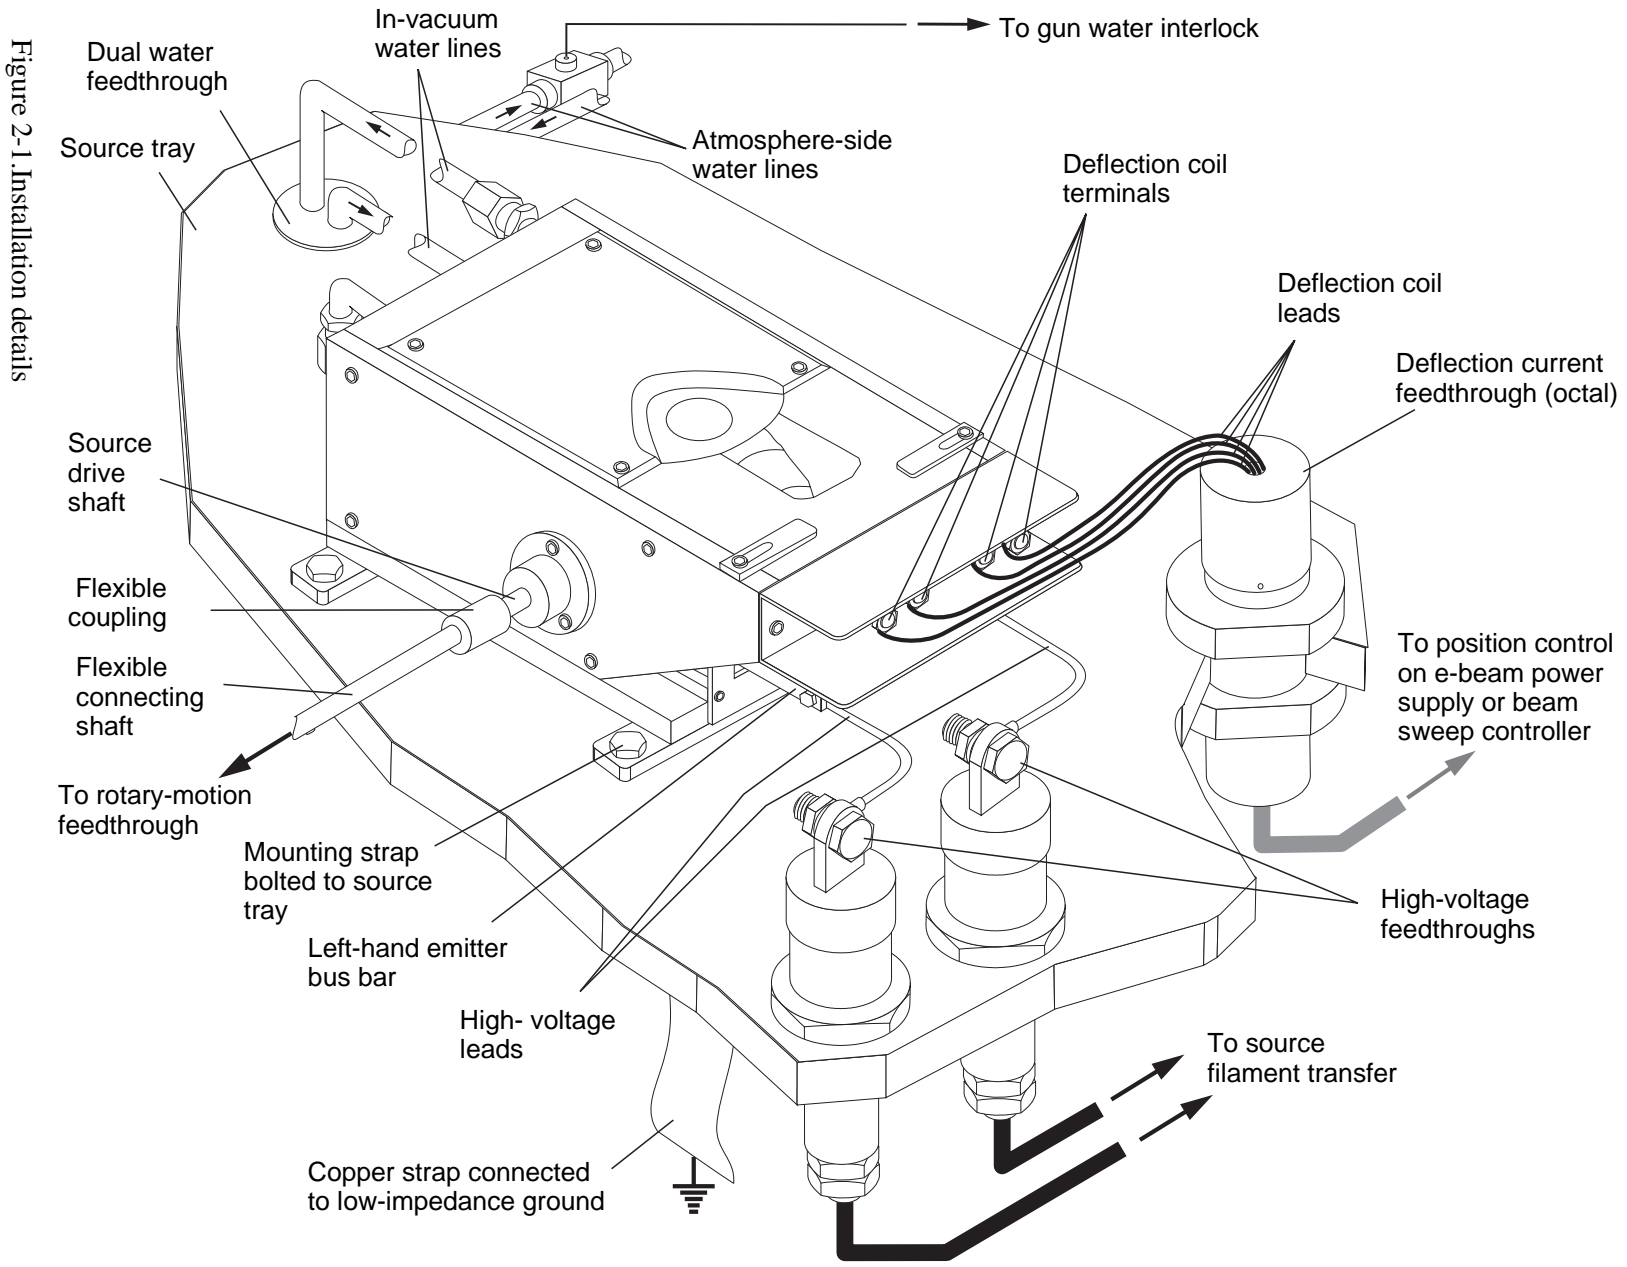
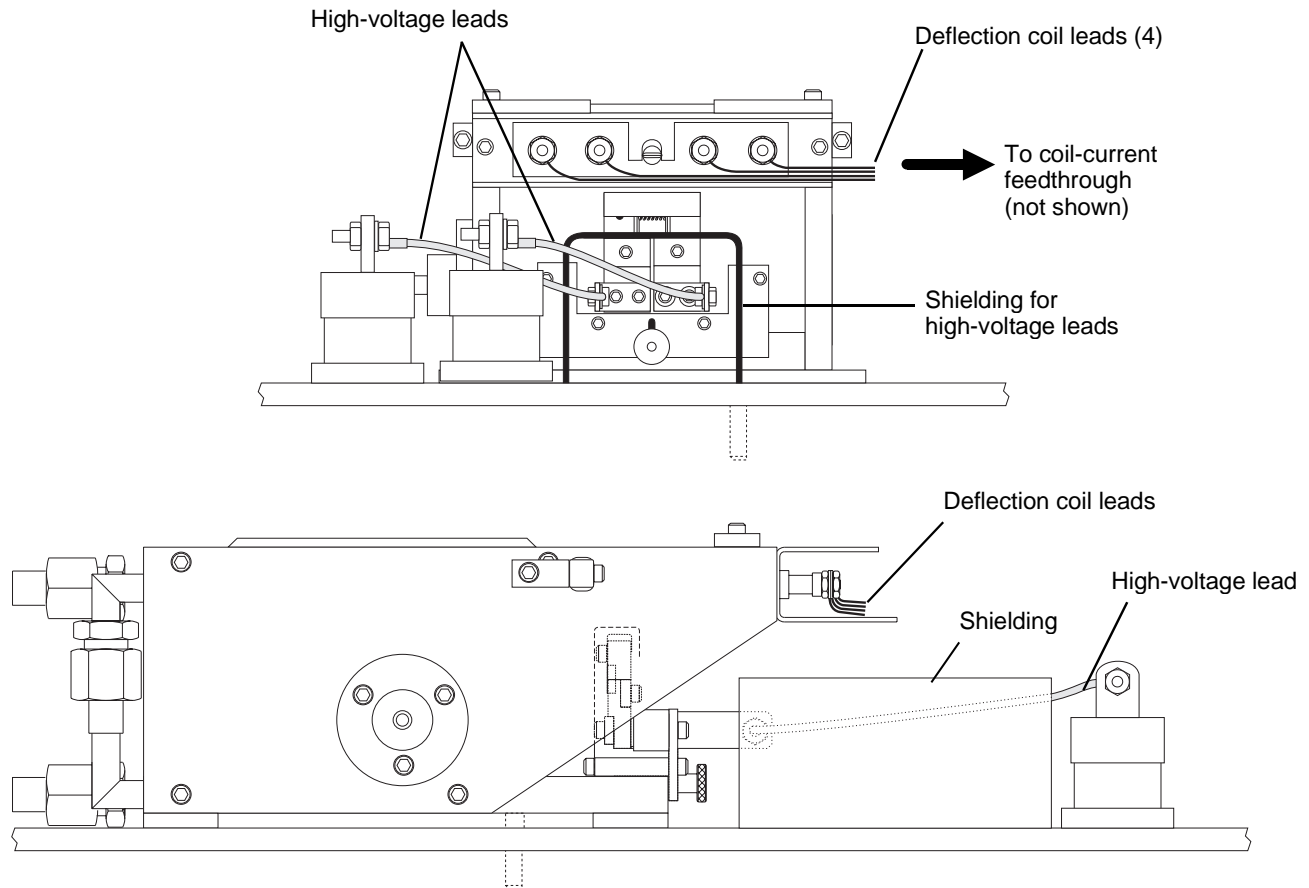

Figure 2-1. Installation details
Figure 2-2. Correct placement of high-voltage shielding
- Some form of shielding to prevent loose material in the vacuum chamber from coming into contact with high-voltage components. Over a period of time, evaporant material accumulates on the inner surfaces of the chamber. As this material flakes off, some of it will fall onto high-voltage components unless they are shielded, resulting in severe arcing. The preferable solution is to install full debris shields, which fit tightly around the top of the source and extend to the chamber walls. If your system will not have full debris shields, then it is essential to install a smaller shield like that shown in Figure 2-2 over the high-voltage leads.
Follow the procedures described below and refer to Figure 2-1 in installing the source.
Next determine where the feedthroughs will be mounted, as their placement depends on where the source is mounted. The water feedthrough should be somewhere behind the source. The high-voltage feedthroughs should be mounted beside each other somewhere in front of the source, or perhaps slightly off to one side, as shown in Figure 2-1. The octal feedthrough should be mounted off to the other side of the source, ideally as far from the high-voltage feedthroughs as possible. Do NOT mount all three electrical feedthroughs in front of the source, with the octal feedthrough positioned between the two high-voltage feedthroughs. This mounting arrangement makes it impossible to isolate the coil-current leads from the effects of the high-voltage. It is critical to provide this protection for the deflection coil leads. This can be accomplished simply by mounting the octal so that the deflection coil leads run along the lower lip of the coil shield and toward the side of the gun opposite the high-voltage feedthroughs, as shown in Figure 2-1. With the leads routed this way, the coil shield provides adequate isolation from the high voltage. If the coil shield cannot be used to provide the required isolation, it will be necessary to install a stainless steel high-voltage shield like the one shown in Figure 2-2.
To ensure proper cooling, the water lines MUST be connected as shown in Figure 2-1, with the supply line connected to the gun's lower external water junction and the return line connected to the gun's upper external water junction. The crucible will not be cooled adequately if these connections are reversed.
- 2 Connect the gun's drive shaft to the rotary feedthrough's output (i.e., vacuum-side) shaft. On side-drive sources, you may need to add an extension shaft like that shown in Figure 2-1 between the gun's drive shaft and the rotary feedthrough. Connecting a side-drive source to a rotary feedthrough mounted in the source tray will require a right-angle coupling. In all other cases, use a flexible in-line coupling (PN 9015-0121-1) to connect the shafts.
1	If your source tray is not fitted with full debris shields, install a shield that will cover the in-vacuum high voltage leads and as much of the emitter assembly's filament bus bars as possible (see Figure 2-2). This shield should be made of type-304 stainless steel, and it should be placed so that no part of it is closer than 1/4" to either of the the high-voltage feedthroughs. There should be no grounded components within the shielded area.